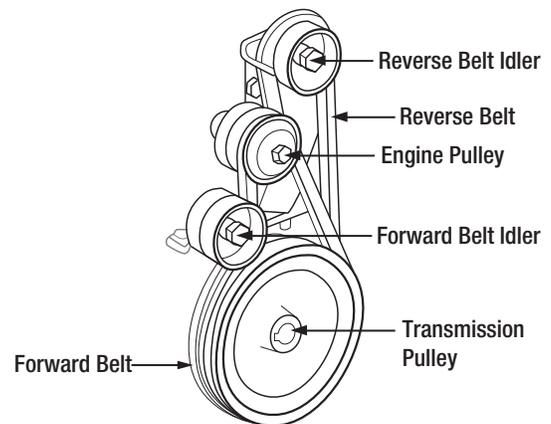

Figure 1-19
- Place forward belt in the transmission pulley groove and gently pull the engine recoil rope to rotate the pulley while forcing the forward belt into the V-groove. See Figure 1-19